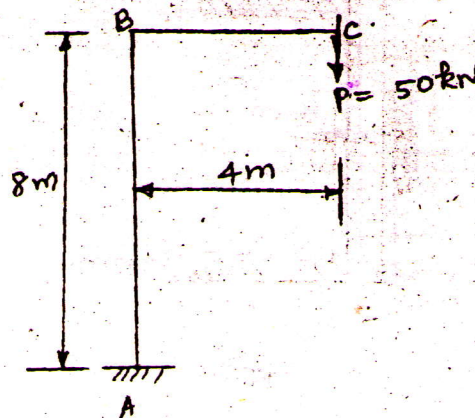

Fig. 5
- (b) Determine the horizontal and vertical displacements of the free end (c) of the rigid cantilever frame shown in Fig. 5. Assume  $EI$  to be constant throughout the frame. Neglect axial deformations.